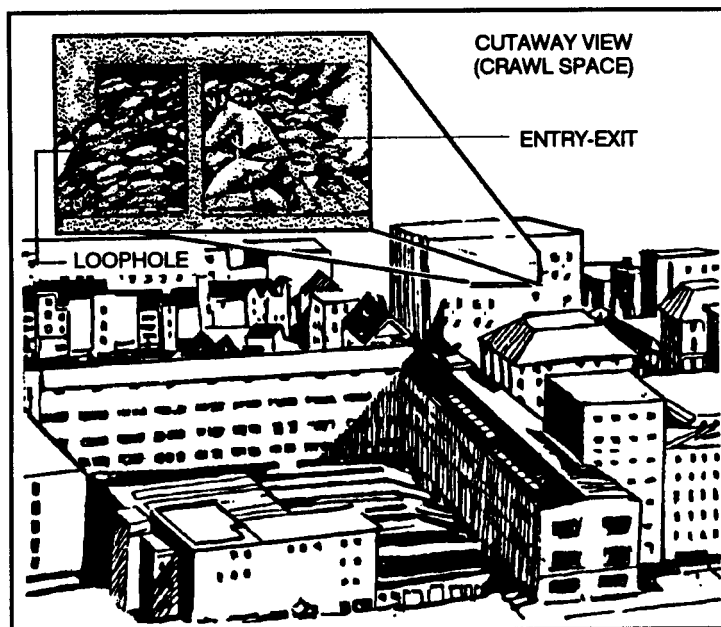

Figure 4-14. Crawl space hide position.
(2) ***Crawl space hide position.*** The sniper team builds a crawl space hide position in the space between floors in multistory buildings (Figure 4-14). Loopholes are difficult to construct, but a damaged building helps considerably. Escape routes can be holes knocked into the floor or ceiling. Carpet or furniture placed over escape holes or replaced ceiling tiles will conceal them until needed.